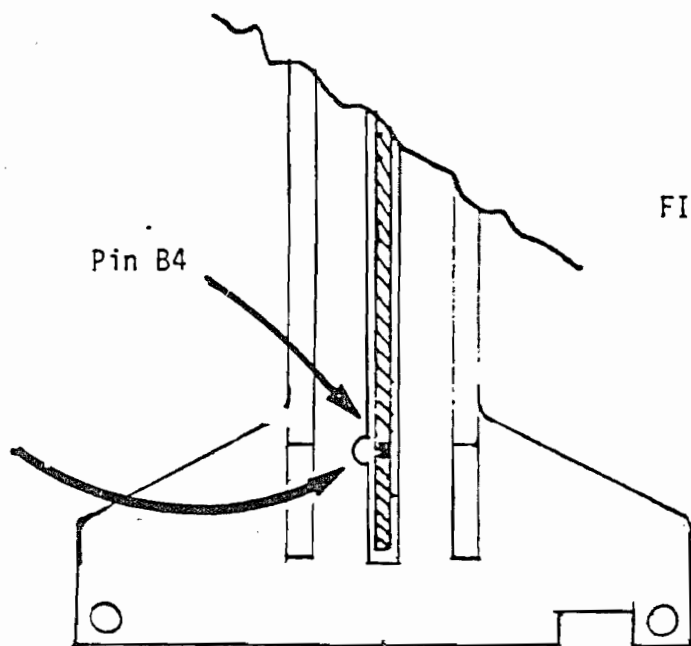

FIG. 5
- 5) On the rear of the 7T11 (bottom left, looking from the rear) locate Pin B4 (fourth one up from bottom left). Mark location of pin B4 on the plastic guide (Fig. 5).
6. Remove the plastic guide (four screws) and cut a semicircle with a small rattail file in line with the mark placed in Step 5 (Fig. 5).